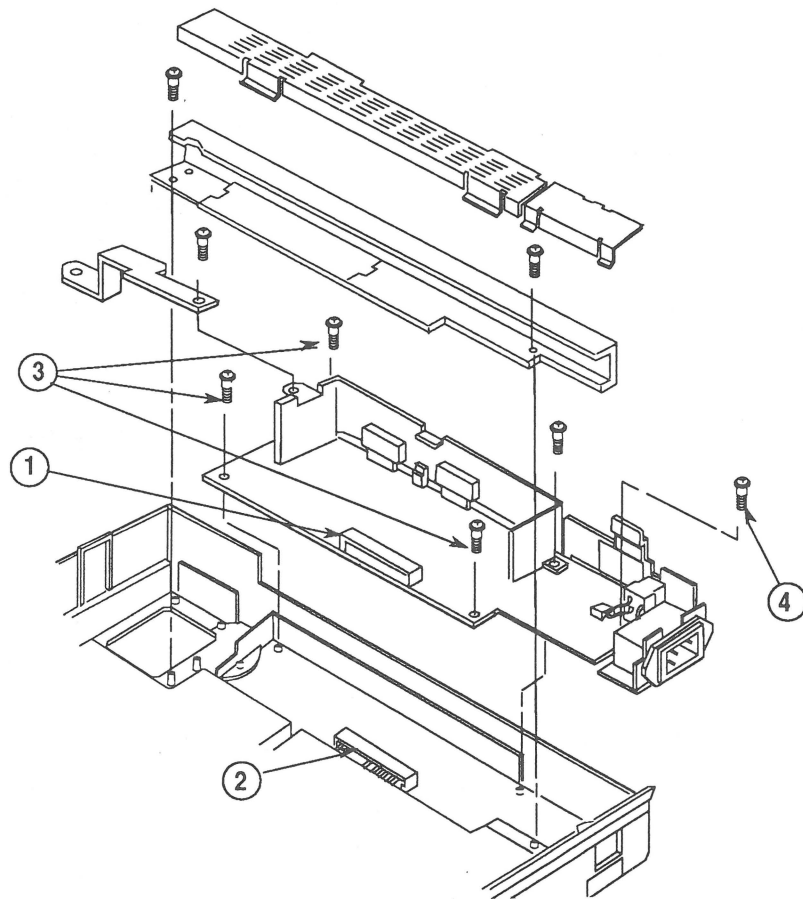

FIGURE 30
1. Before putting in the power supply board completely, line up connector CN3 (Figure 30, #1) on the power supply board with the connector (Figure 30, #2) coming from the main logic PCB, and connect them together.
2. Place the power supply board in the case and secure it with the three self-tapping screws (Figure 30, #3) and the one ground screw (Figure 30, #4).